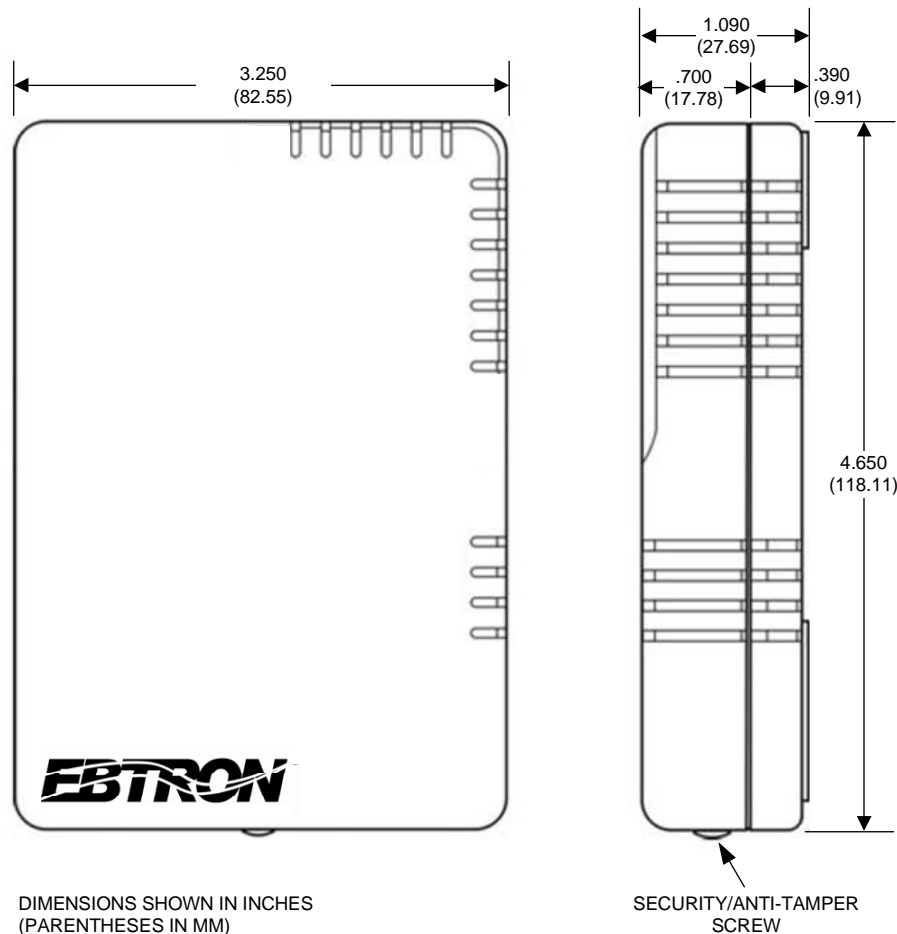
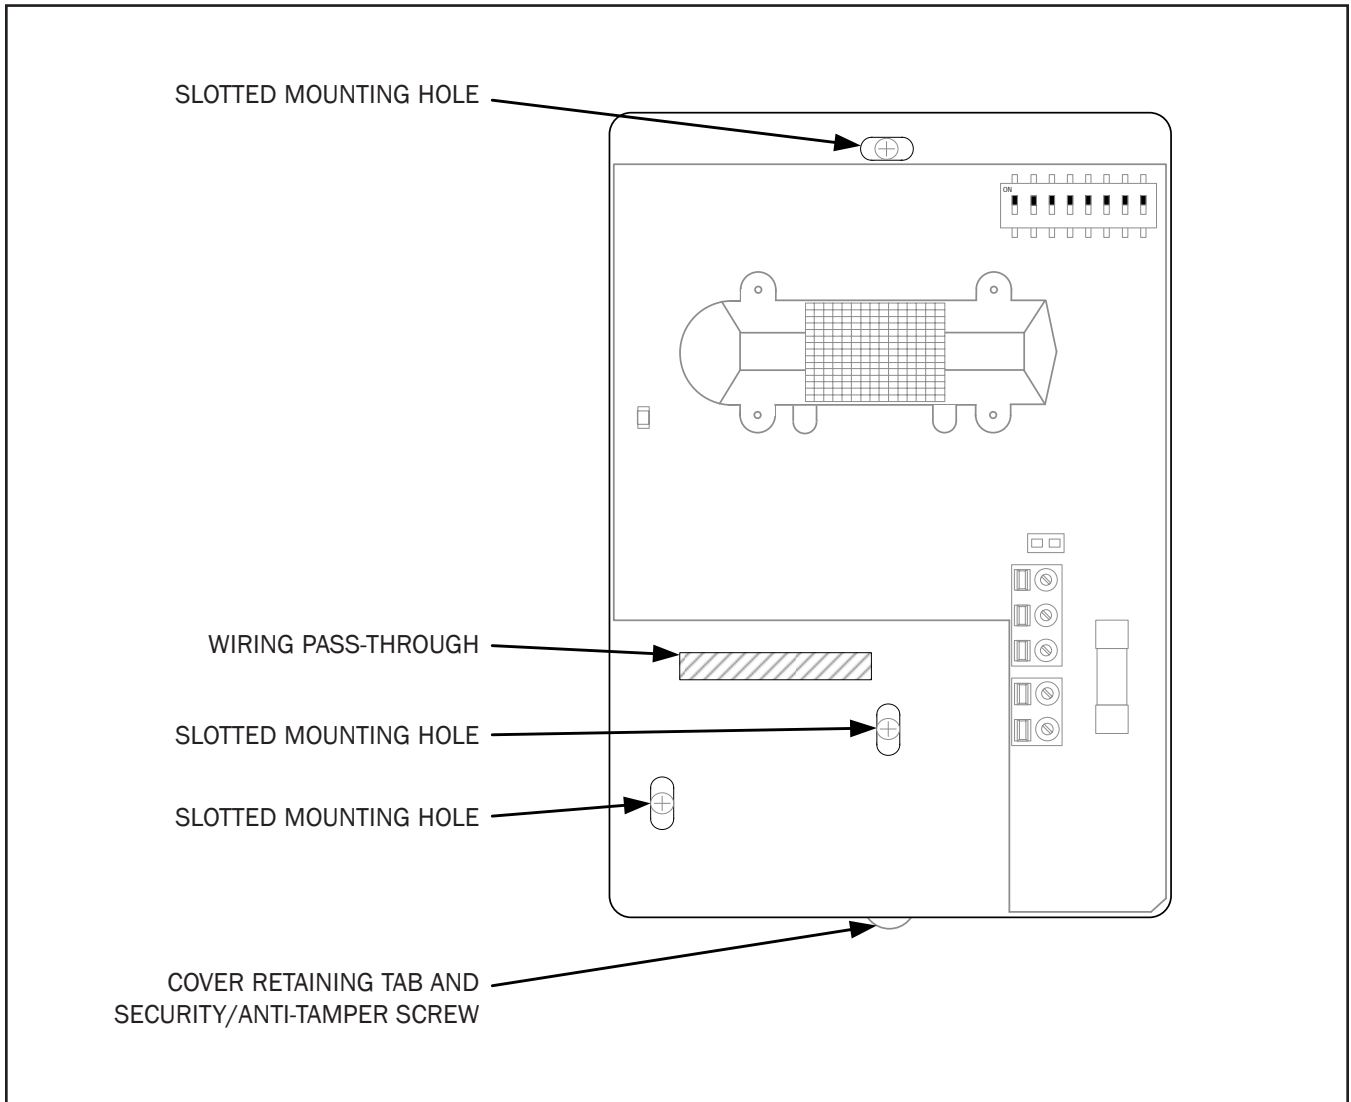

Figure 2. IAQ-100 Outline Dimensions
Figure 3. Marking Locations for Installation
Figure 2 details the mechanical outline dimensions of the IAQ-100. The location selected for the IAQ-100 is important to ensure accurate readings that are representative of the area to be monitored. Preferred mounting locations are:
Read and understand all installation instructions prior to installing the IAQ-100. The IAQ-100 is designed for surface mount installation, or for installation onto a standard (field supplied) single gang electrical junction box. Installation and wiring of the IAQ-100 must be accomplished in accordance with all local electrical and mechanical codes to ensure safety and compliance. Refer to Figure 2 for IAQ-100 outline dimensions, and Figure 3 for mounting locations.
5. Using the IAQ-100 base as a template, mark the location for the wiring pass-through slot and for the mounting screws as shown in Figure 3. For mounting directly to a single-gang electrical junction box, proceed to step 8.